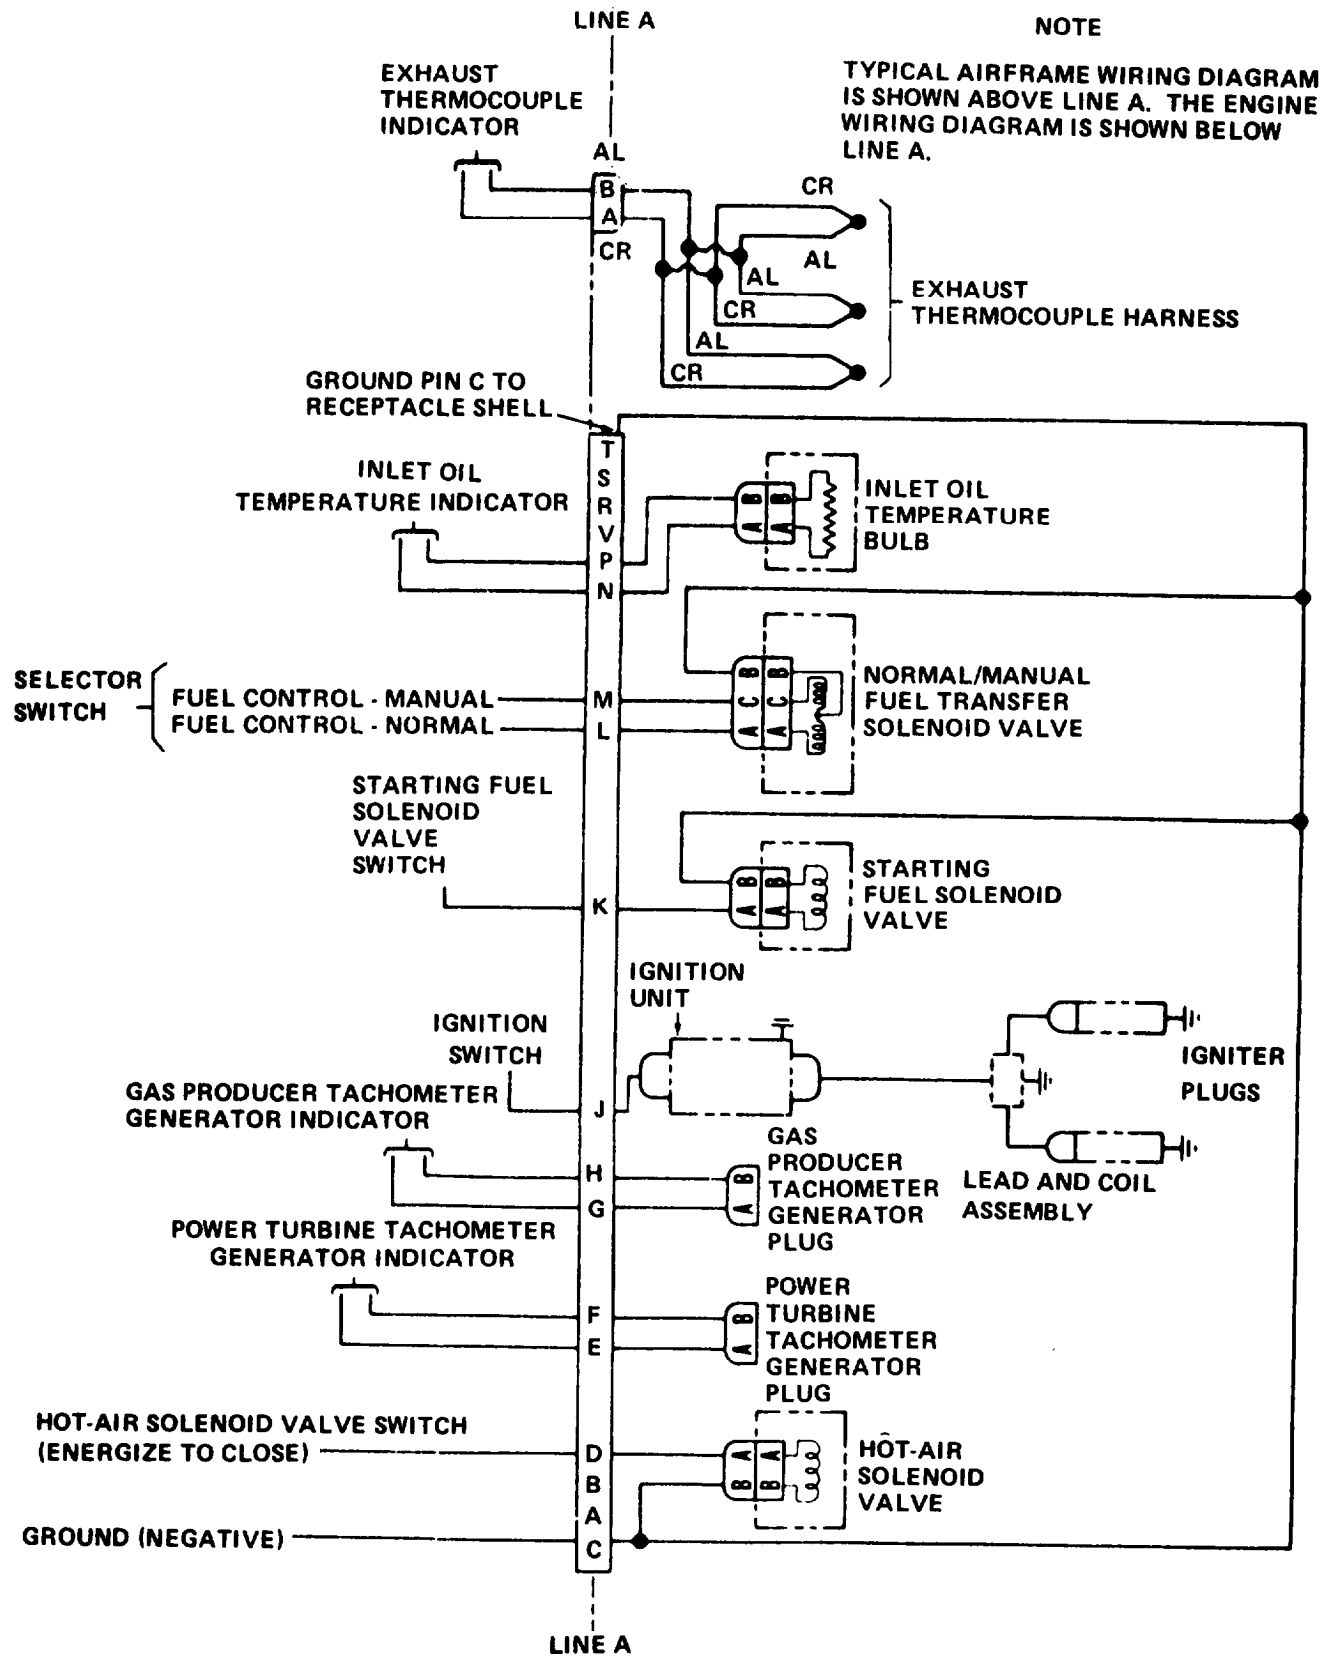

Figure 1-20. Electrical System Schematic (T53-L-11 Series Engine)
**1-22. Electrical System.** Provides circuitry for starting, ignition, and for all electrical accessories. See figures 1-20 thru 1-221
- (1) airframe electrical input
- (2) engine ignition unit
- (3) hot-air solenoid valve
- (4) starting fuel solenoid valve
- (5) inlet oil temperature bulb
- (6) emergency fuel transfer solenoid valve
- (7) power turbine and gas producer tachometer generators